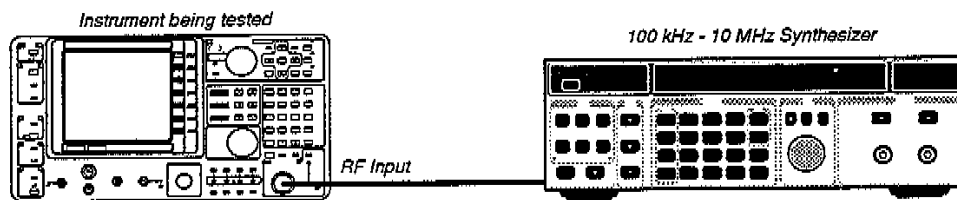

Figure 3-37. Flatness Test Set-up – 10 MHz and below.
3. You will be prompted to make the connection shown in Figure 3-37. This test setup checks the low frequency range from 1 kHz to 10 MHz.
9. You will be prompted to make the connection shown in Figure 3-37. This test setup checks the low frequency range from 100 Hz to 10 MHz.